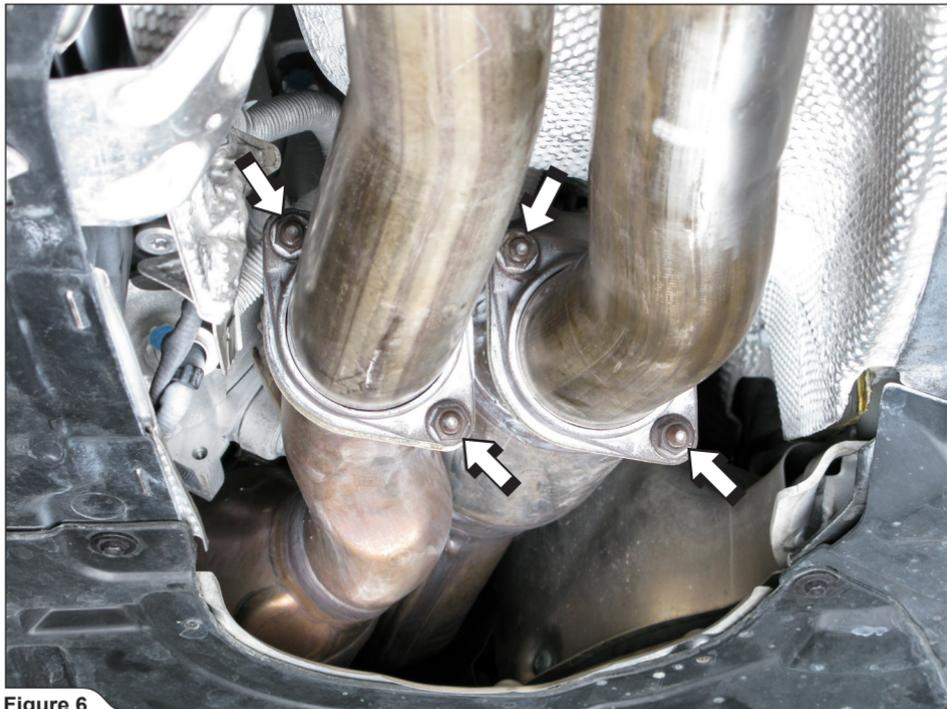

Figure 6
4. **For Evolution:** unscrew marked nuts (Figure 6).